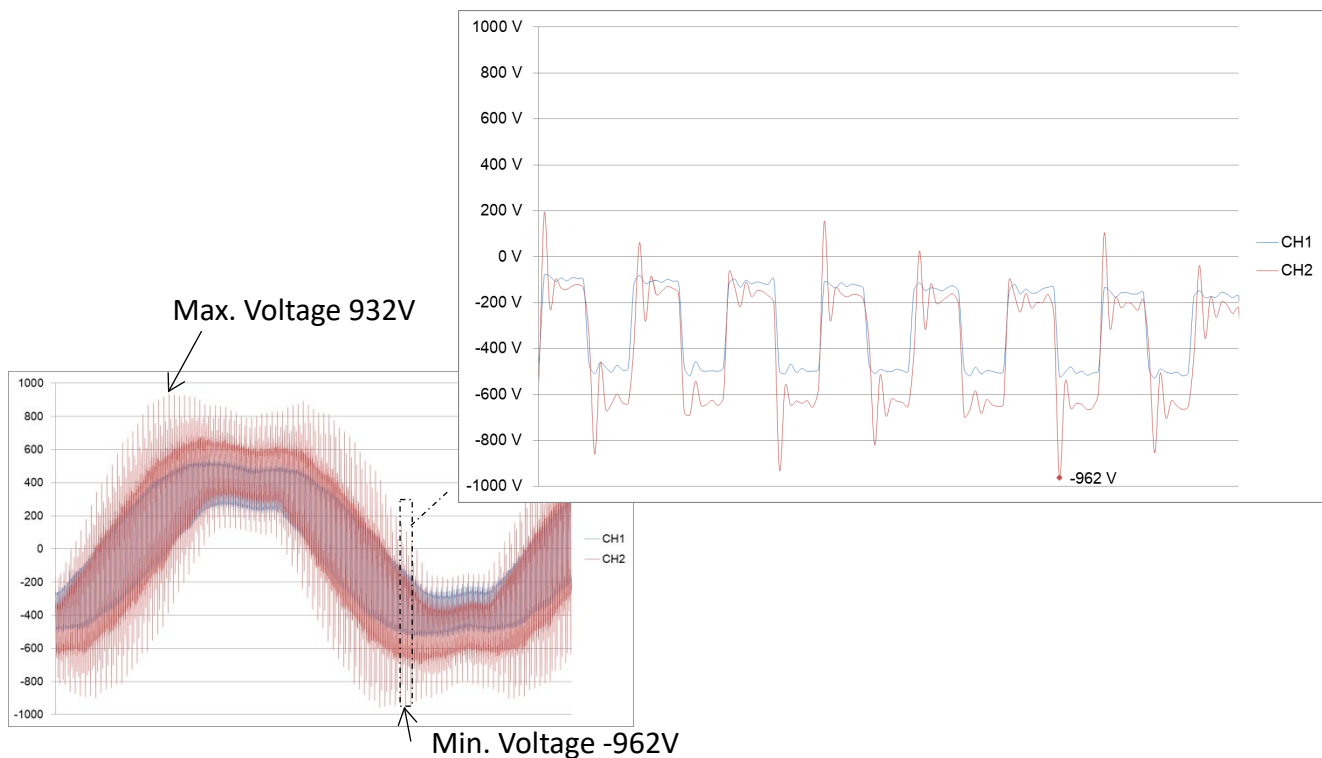

Figure 3.5.10 A captured diagram of voltage waveform.
- (3) After the connection is completed, power on and enable the motor (no need to rotate).
- (4) Use an oscilloscope to observe the voltage waveform. Here is an example of the voltage waveform (as shown in the Figure 3.5.10).
- (5) Screenshot of output voltage waveform. It is necessary to capture the peak voltage difference and include at least 5 complete waveforms (as shown in Figure 3.5.10)
- (6) Save the voltage waveform data as a CSV file, which needs to include the time and voltage value data based on synchronization of two measurement points.
- (7) If the drive motor has different PWM modulation frequencies, the PWM modulation frequency of the drive needs to be changed. The modulation frequencies which may be used should all be
※When capturing the voltage waveform, it should be noted that the voltage may change periodically (as shown in Figure 3.5.10). Please get the peak voltage.